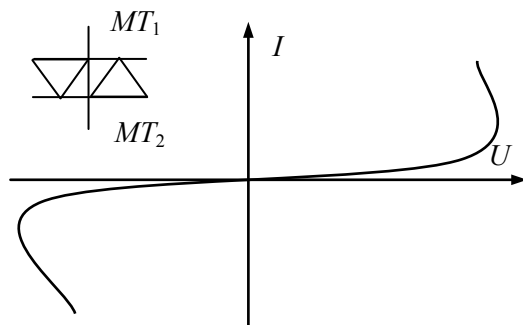

Fig. 1.52
**Diac.** A *diac* is a bi-directional diode that can be triggered into conduction by reaching a specific voltage value. General Electric introduced this term as a “diode ac semiconductor device”. It functions as two parallel Shockley diodes aligned back-to-back. The diac can pass current in either direction. Its equivalent circuit is a pair of non-controlled reverse-parallel-connected thyristors. The crystal structure of this device is the same as a *pnp* transistor with no base connection. The current-voltage characteristic and a symbol of a diac are shown in Fig. 1.52. A diac has neither an anode, nor a cathode. Its terminals are marked as  $MT_1$  (main terminal 1) and  $MT_2$  (main terminal 2). Like a rectified diode, every diode of a diac conducts the current in one direction only after the knee voltage exceeding. Once the diac is conducting, the only way to turn it off is by the current drop out. With the voltage values lower than the breakover level, the device cannot start conduction.